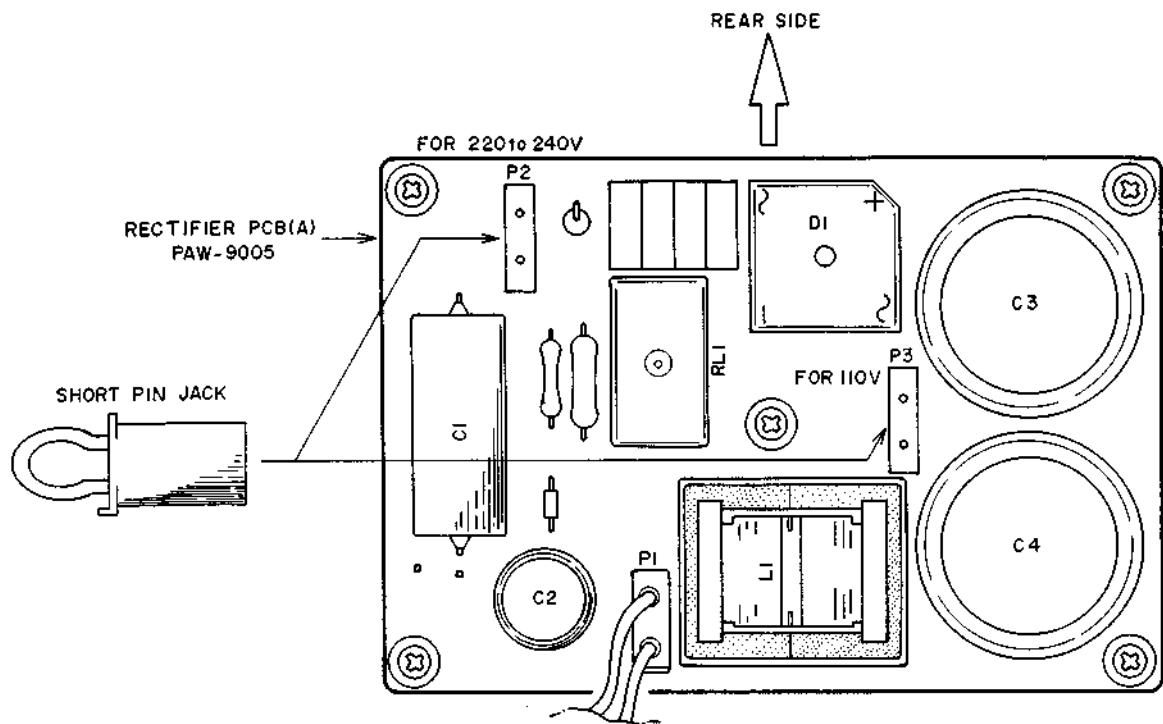

Fig. 4 Rectifier P.C Board (A) PAW-9005
### 1. U/T Model (Refer to Figs. 4,5)
- 3) Insert the short pin jack for each voltage area as shown in Fig. 4 and then plug in.